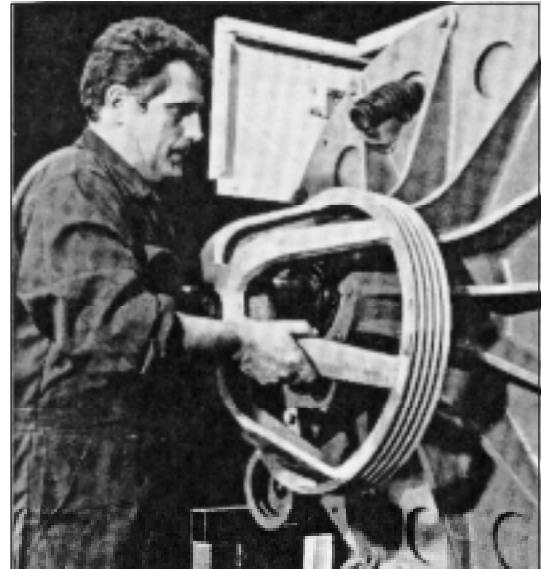

Figure 3. Removal of drum belt pulley
5. Loosen the screws on the clamp bushing of the pulley, three turns with a 6 mm Allen wrench. Remove the pulley, see figure 3.